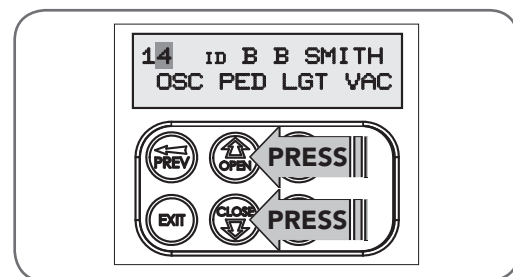

Fig G.3
- a. Press the UP or DOWN arrows to navigate through the list (**Fig. G.3**).